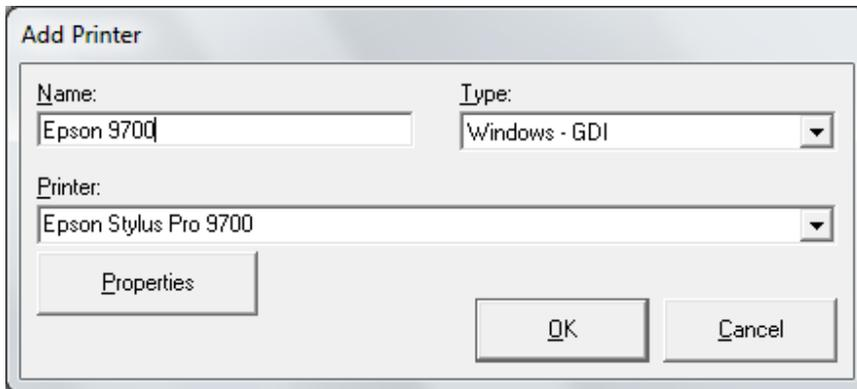

Fig 3-8
1. From the Manage Printers interface, highlight an existing printer and click [Edit] to open the Add Printer window (Fig 3-8).